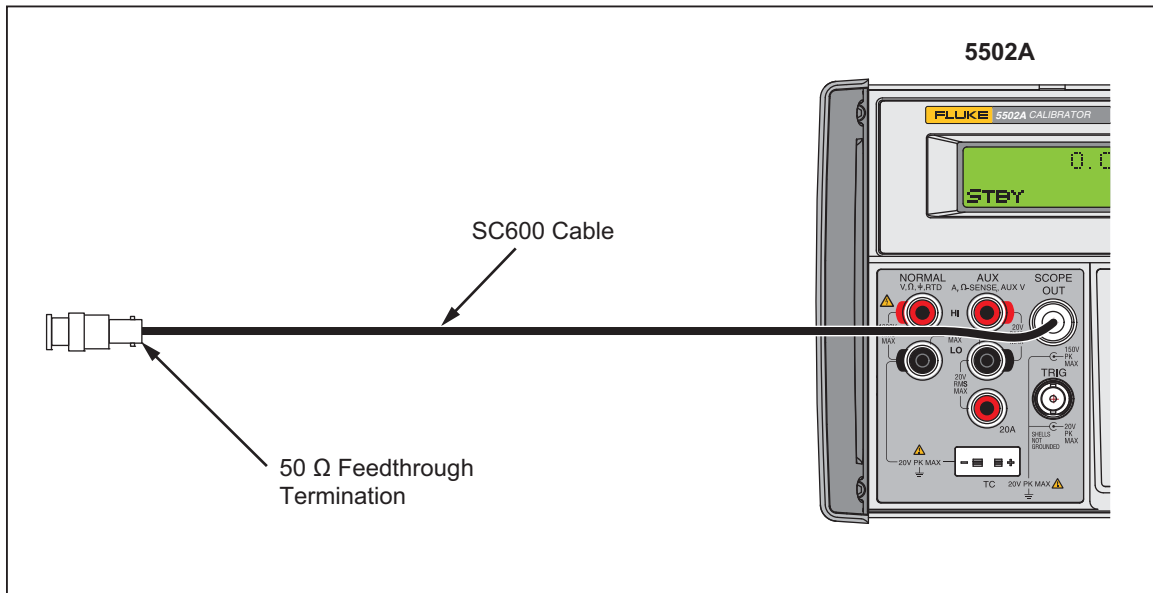

Figure 7-15. Overload Function Verification Connections
1. Connect the output cable and 50 Ω feedthrough termination to the Calibrator as shown in Figure 7-15.